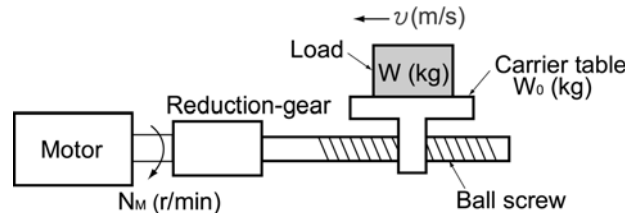

Figure 7.7 Moving a Load Horizontally
A simplified mechanical configuration model is assumed as shown in Figure 7.7. If the mass of the carrier table is W_0 (kg), the load is W kg, and the friction coefficient of the ball screw is μ , then the friction force F (N) is expressed as follows, which is equal to a required force for driving the load:
Assume a carrier table driven by a motor as shown in Figure 7.7. If the table speed is v (m/s) when the motor speed is N_M (r/min), then an equivalent distance from the rotation axis is equal to $60 \cdot v / (2\pi \cdot N_M)$ m. The moment of inertia of the table and load to the rotation axis is calculated as follows: